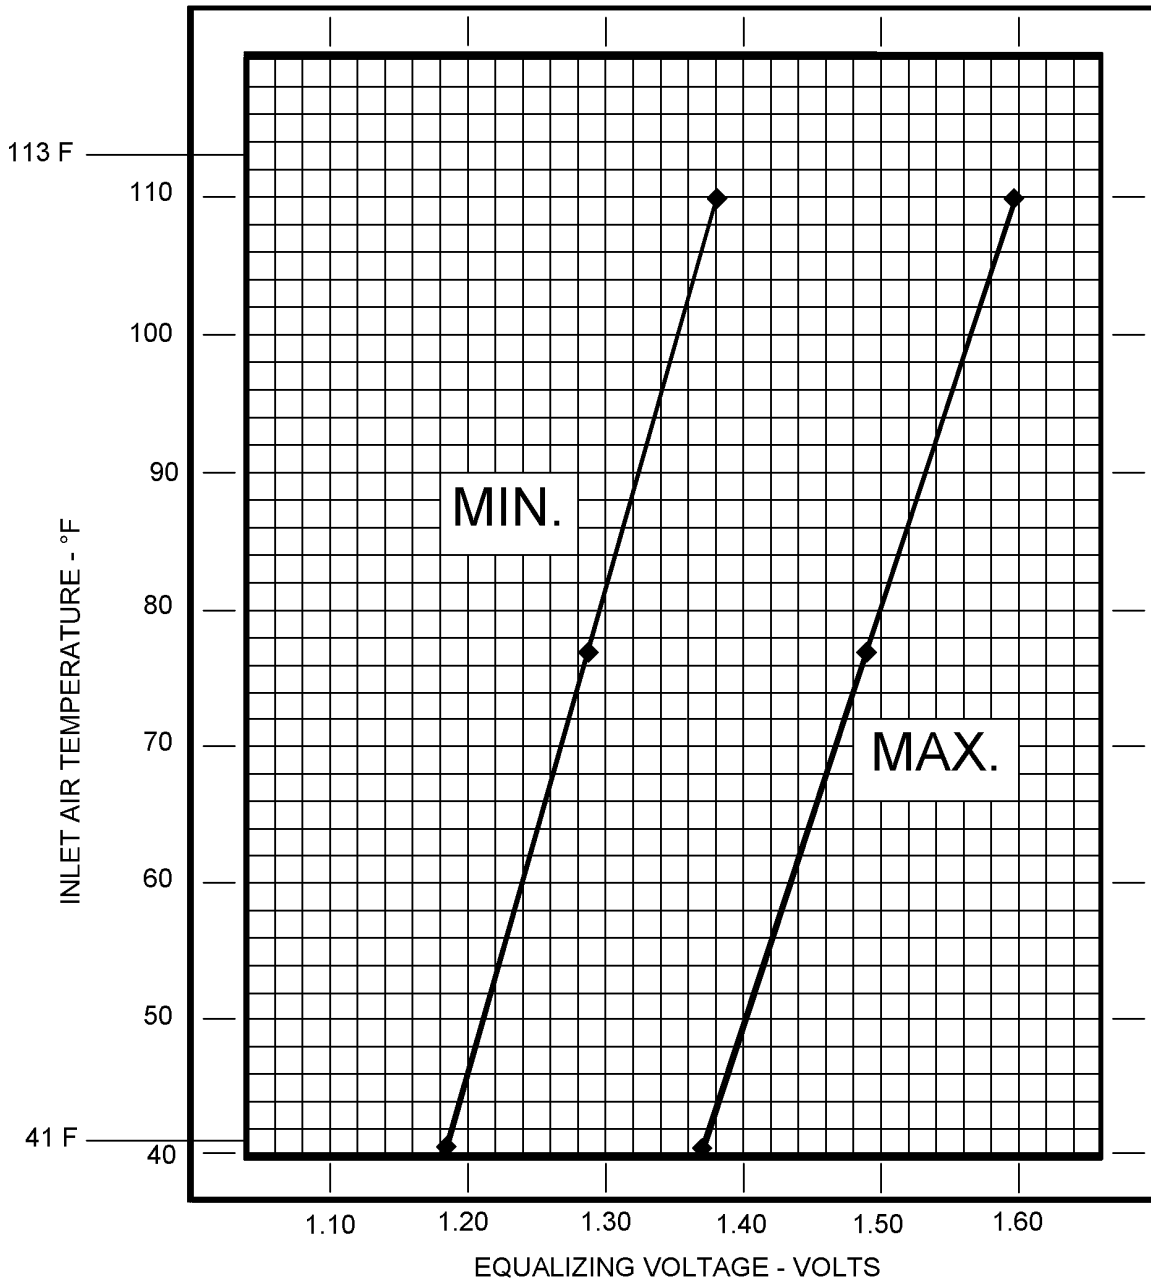

Figure 8 - Equalizing Voltage Diagram
(1) Continuous Operating Speed, Equalizing Voltage, and Minimum Speed:
- (b) Measure and record voltage between terminals D and E: Voltage must be within limits in Figure 8.